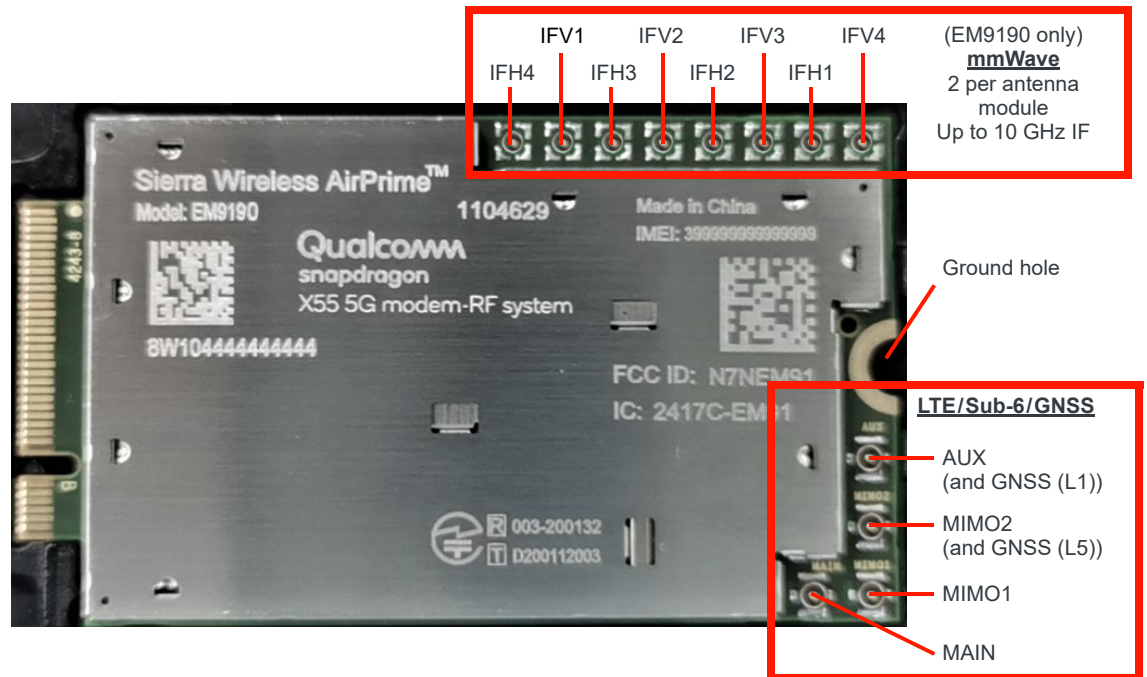

Figure 4-1: Module RF Connectors
EM91 modules include the following antenna connectors (Figure 4-1):
- Connect to system ground using the ground hole shown in Figure 4-1 on page 43.